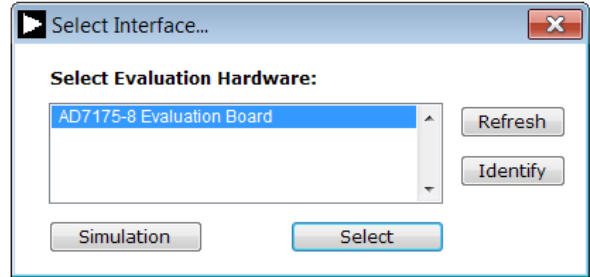
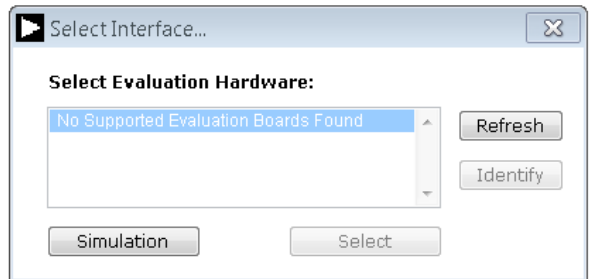
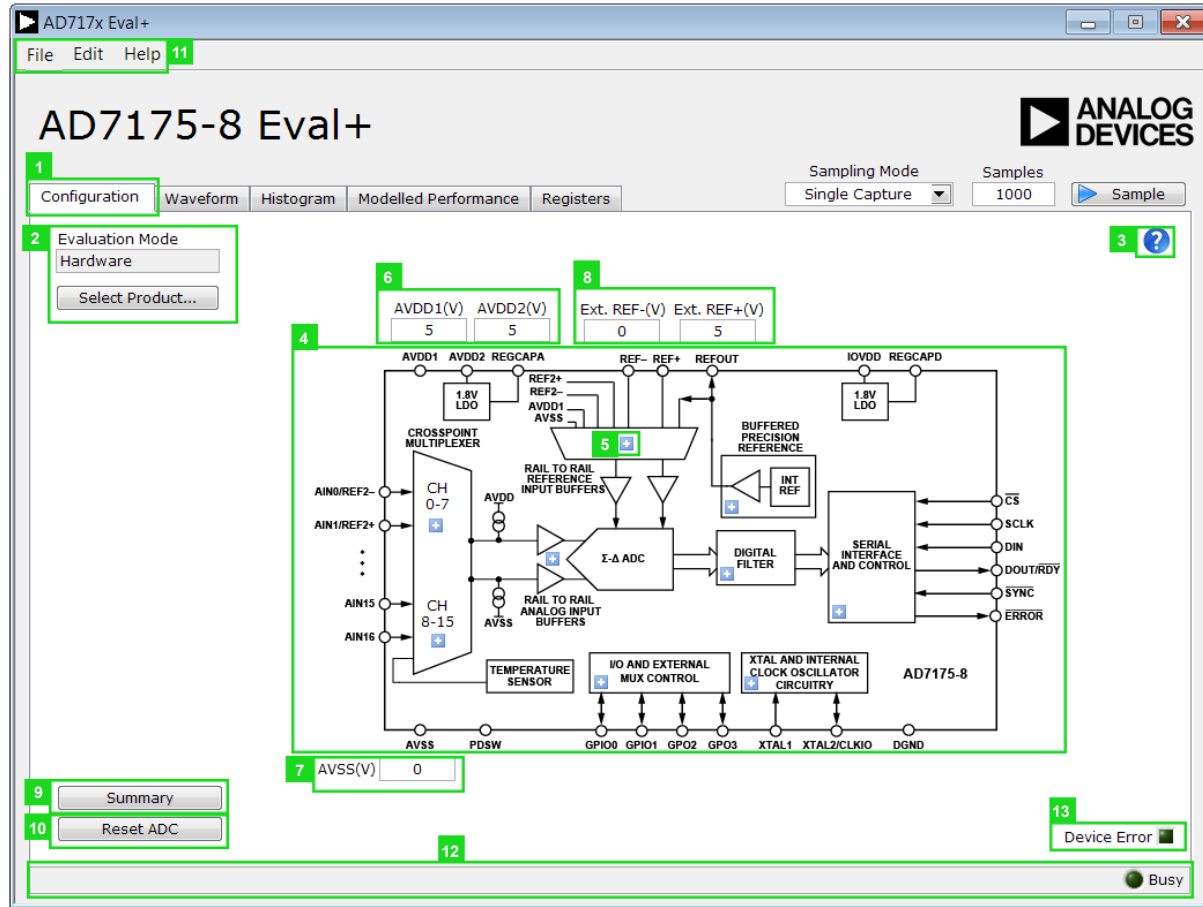
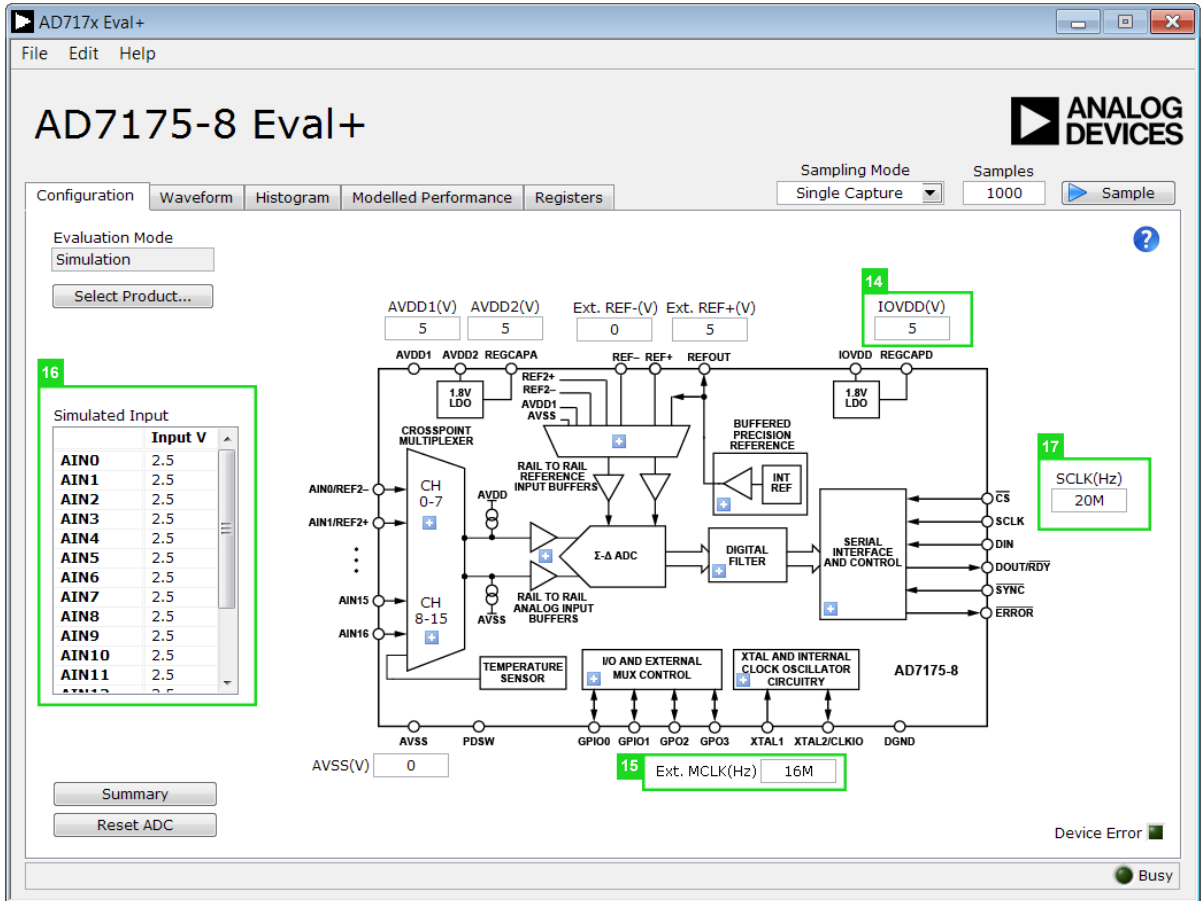

Figure 13. AD7175-8 Evaluation Board Selection
Figure 14. Evaluation Board Selection, No Board Connected
Figure 16. Configuration Tab of the AD7175-8 Eval+ Software in Hardware Mode
Figure 17. Configuration Tab of the AD7175-8 Eval+ Software in Simulation Mode
- The dialog box in Figure 13 appears, select **AD7175 Evaluation Board**. The main window of the software box displays as shown in Figure 16.
- If the **EVAL-AD7175-8SDZ** evaluation system is not connected to the USB port via the **SDP-B**, when the software is launched the **Select Interface** dialog box appears (see Figure 14). Connect the evaluation board to the USB port of the PC, wait a few seconds, click **Refresh** and the option shown in Figure 13 appears.
Figure 16 shows the Configuration tab when Hardware Mode is selected and Figure 17 shows the Configuration tab when Simulation mode is selected. The controls highlighted in Figure 17 are only available in Simulation mode.
The Evaluation Mode indicator displays the current evaluation mode. To switch between modes, click the Select Product button and the dialog box shown in Figure 13 appears.